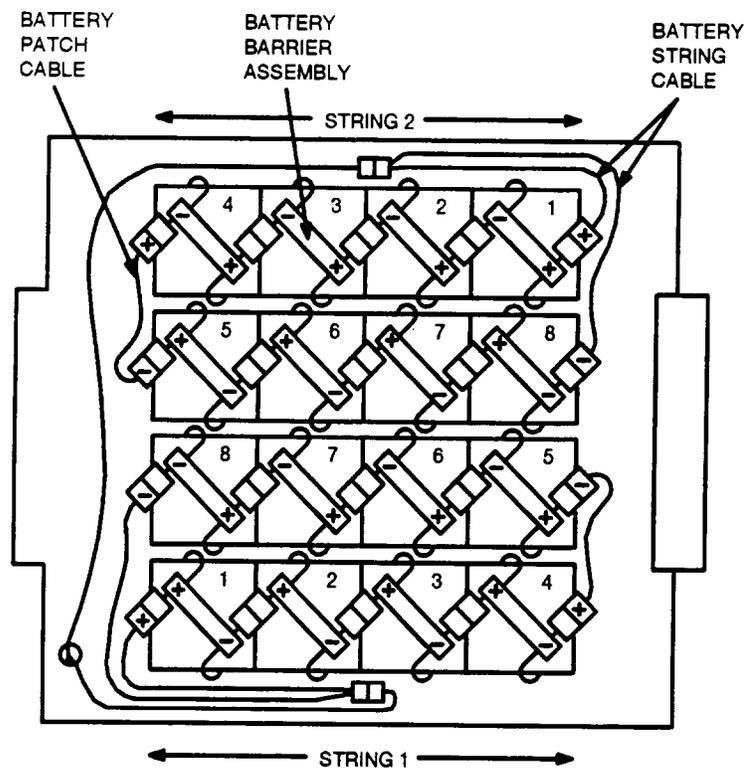

Figure 2 — Chloride Battery String Connections and Position in 80A Cabinet
Connect patch cord (Figure 2) to **BAT (-)** connector of battery 5.
16. As shown in Figure 2, place batteries 5 through 8 (with cable assemblies) in battery compartment in position for battery string 1 or 2.
Connect batteries together by plugging **BAT (-)** connector from one battery into **BAT (+)** connector from next battery (Figure 2).
18. Place batteries 1 through 4 in positions shown in Figure 2.
19. Connect other end of patch cord (Figure 2) to **BAT (+)** connector of battery 4.
Connect batteries together by plugging **BAT (-)** connector from one battery into **BAT (+)** connector from next battery (Figure 2). Repeat for remaining batteries in battery string.